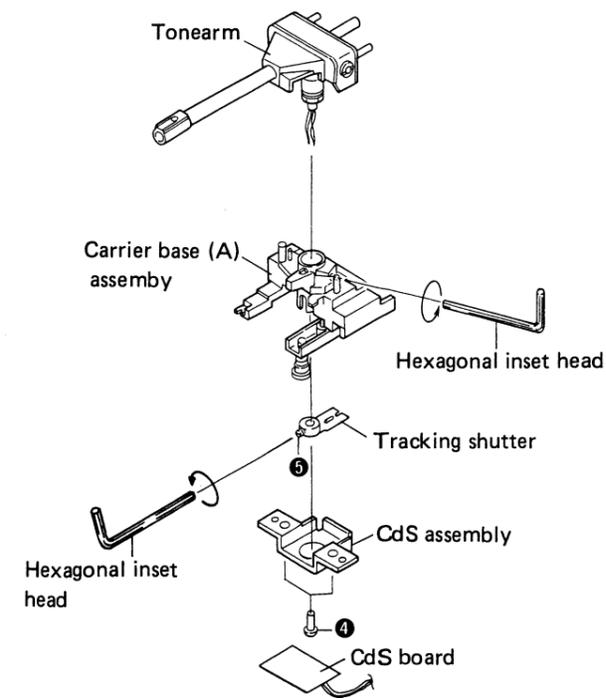

Fig. 3-7 Remove the tonearm 2
2. The CdS ass'y may be removed by unscrewing the two screws ❹. The tracking shutter section is secured to the arm pivot by screw ❺. Then by loosening the carrier base (A) ass'y tonearm securing screw (hexagonal inset head), the tonearm may be gently removed (Fig. 3-7).